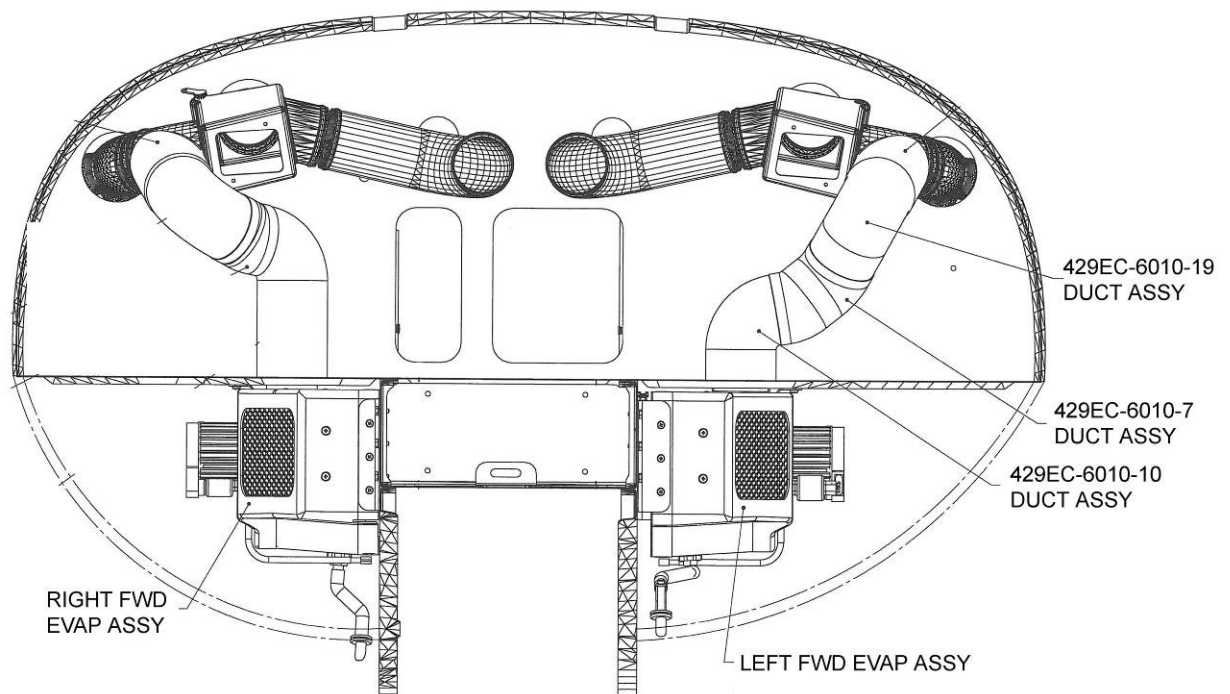

Figure 5: View Looking Aft at Fwd Evaporators and Ducting
3. Remove left forward evaporator assembly and discard. See Figure 5.
4. Remove and discard 429EC-6010-10 and 429EC-6010-7 duct assemblies between left evaporator and 429EC-6010-19 LH elbow assembly. See Figure 5.